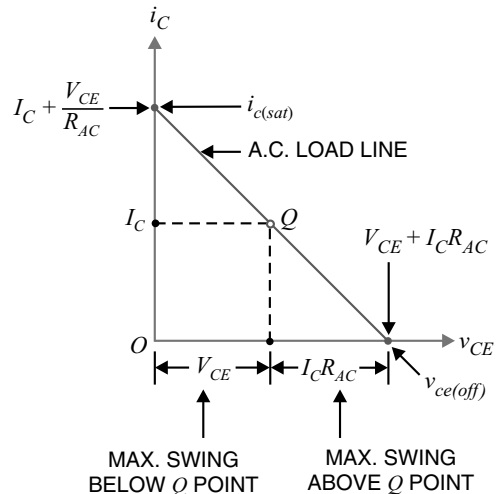

Fig. 10.8
**How to find maximum voltage swing?** For a given  $Q$  point and distortionless a.c. output, we can easily find the maximum swing of a.c. output signal above and below the  $Q$  point. This is illustrated in Fig. 10.8. It is clear from Fig. 10.8 that for distortionless a.c. output, the maximum swing of a.c. output voltage above and below  $Q$  point is the smaller of  $V_{CE}$  and  $I_C R_{AC}$ . If  $V_{CE} < I_C R_{AC}$ , then  $V_{CE}$  should be taken as the maximum swing from the  $Q$  point. If  $I_C R_{AC} < V_{CE}$ , then  $I_C R_{AC}$  should be taken as the maximum swing from the  $Q$  point.